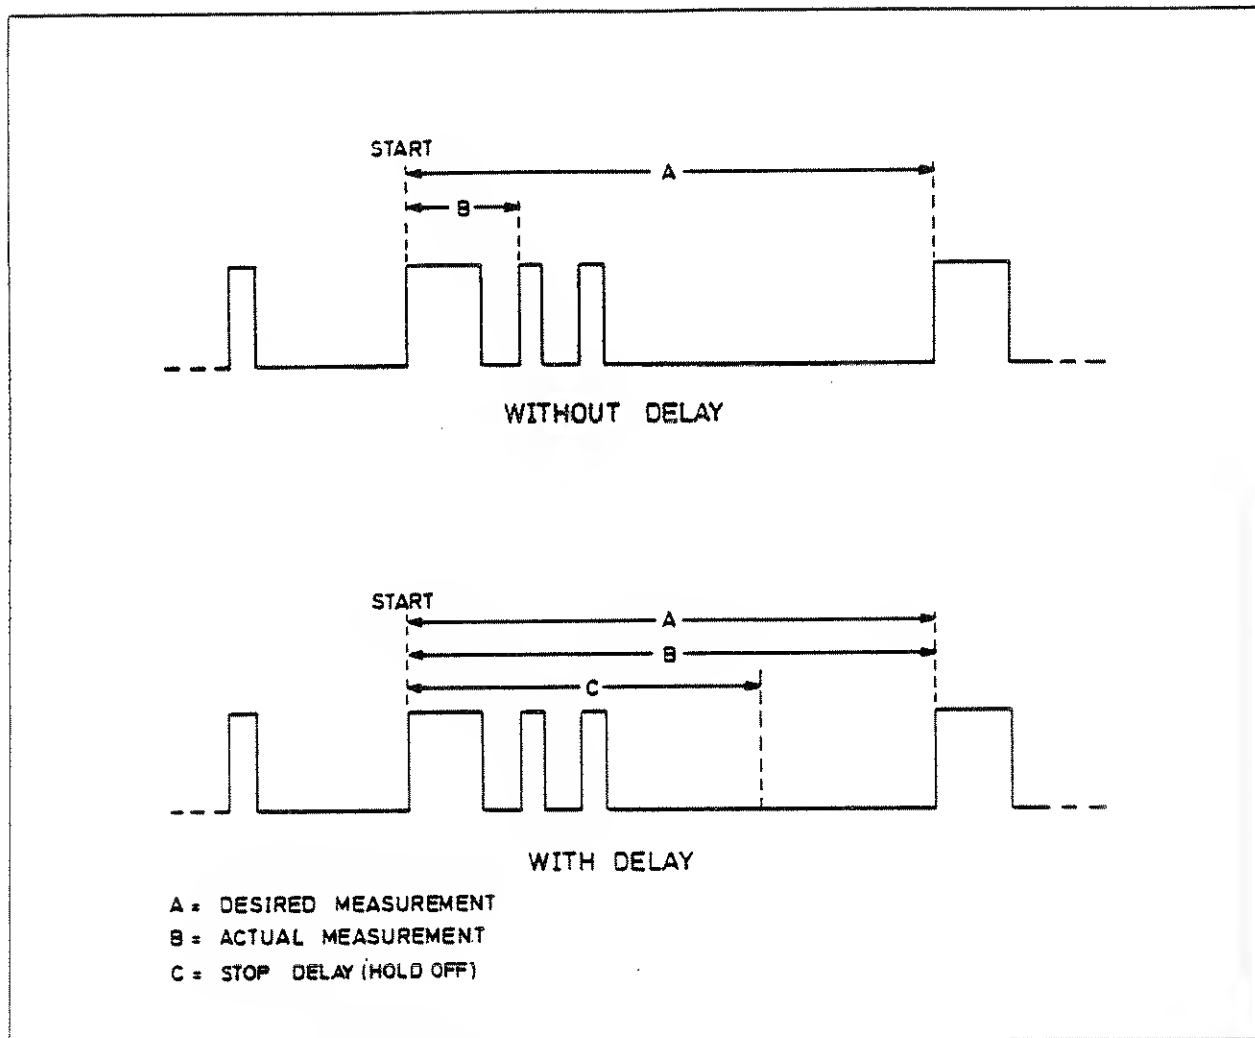

Figure 3.1 - Use of Stop Circuit Delay
3.7.1.2 The delay can be used to prevent the stop circuit from being triggered prematurely by spurious signals such as those resulting from relay contact bounce. The principle of stop circuit delay is shown in Figure 3.1.